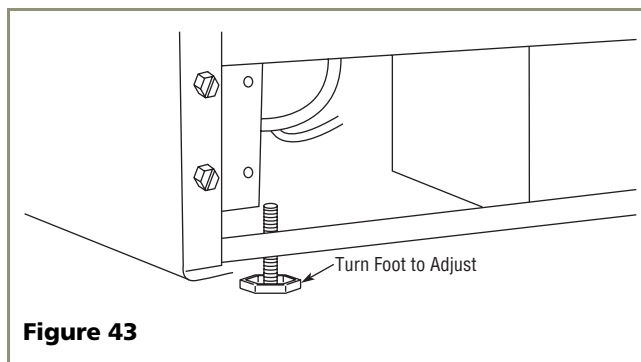

Figure 43
2. If the ice maker is not level, adjust the feet on the corners of the unit as necessary (see **Figure 43**).